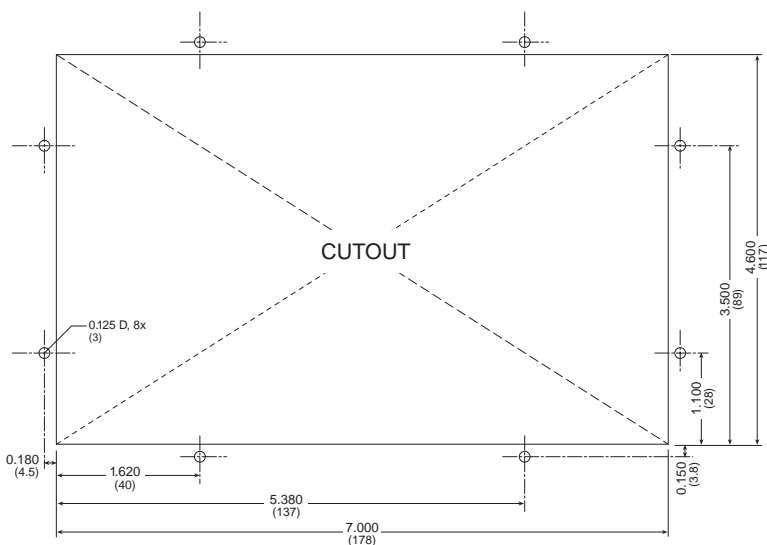

Figure 6-2. Recommended Cutout Dimensions
1. Cut mounting holes in the mounting panel in accordance with the recommended dimensions in Figure 6-2, then use the bezel faceplate to mount the OP7100 onto the panel.